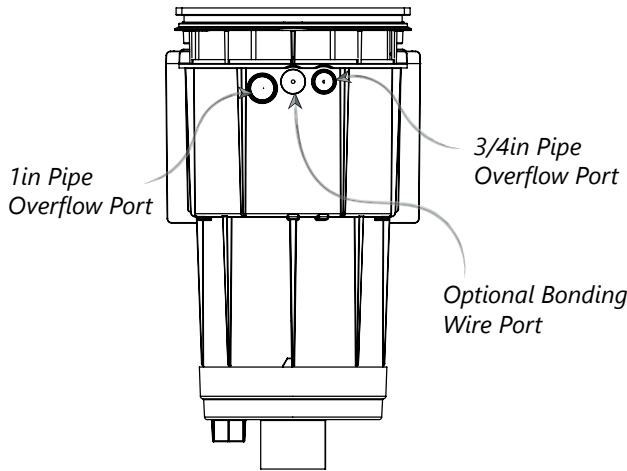

FIGURE 4: OVERFLOW PORTS
4. OPTIONAL OVERFLOW PORTS (FIG 4)